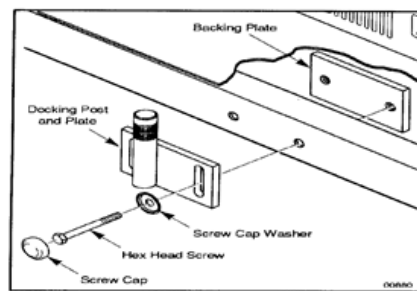

Figure 4-1 Docking Post Plate Installation
3. Slide a screw cap washer onto each of the hex head screws. (See Figure 4-1.) Slide one of the screws and screw cap washer through the slot in the docking post plate.